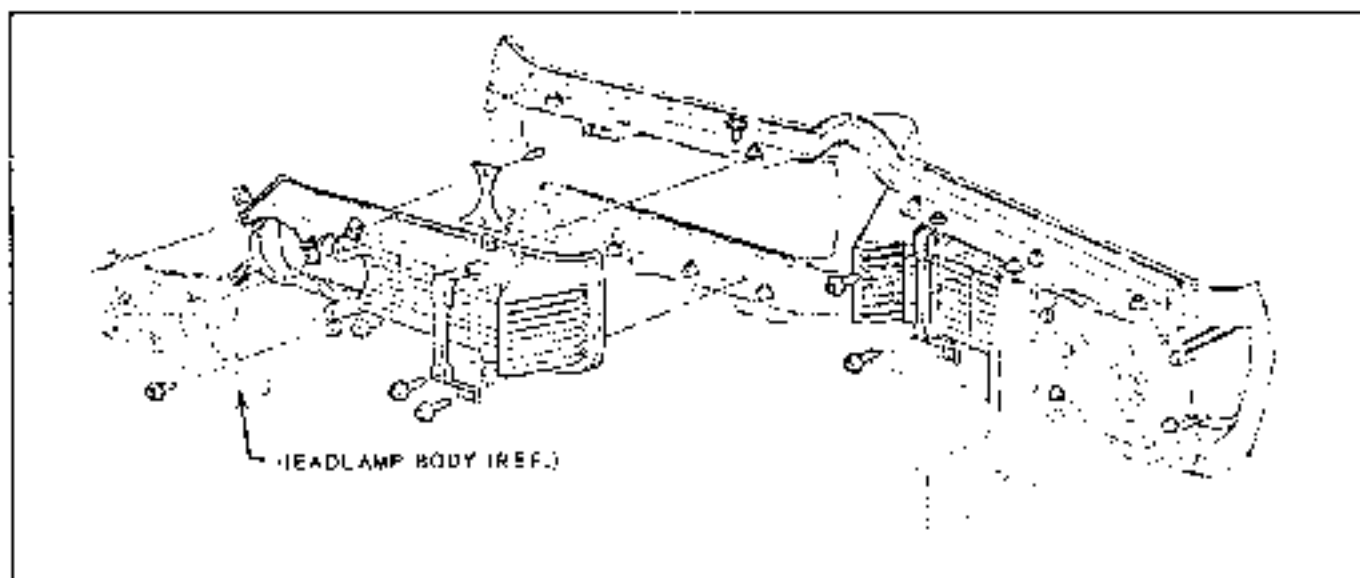

Fig. 14-7 Tempest Grille
6. Remove grille shells (Figs. 14-7 and 8)